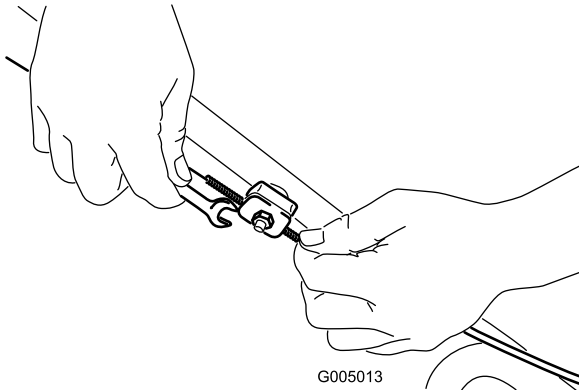

Figure 30
1. Loosen the cable-support nut (Figure 30).